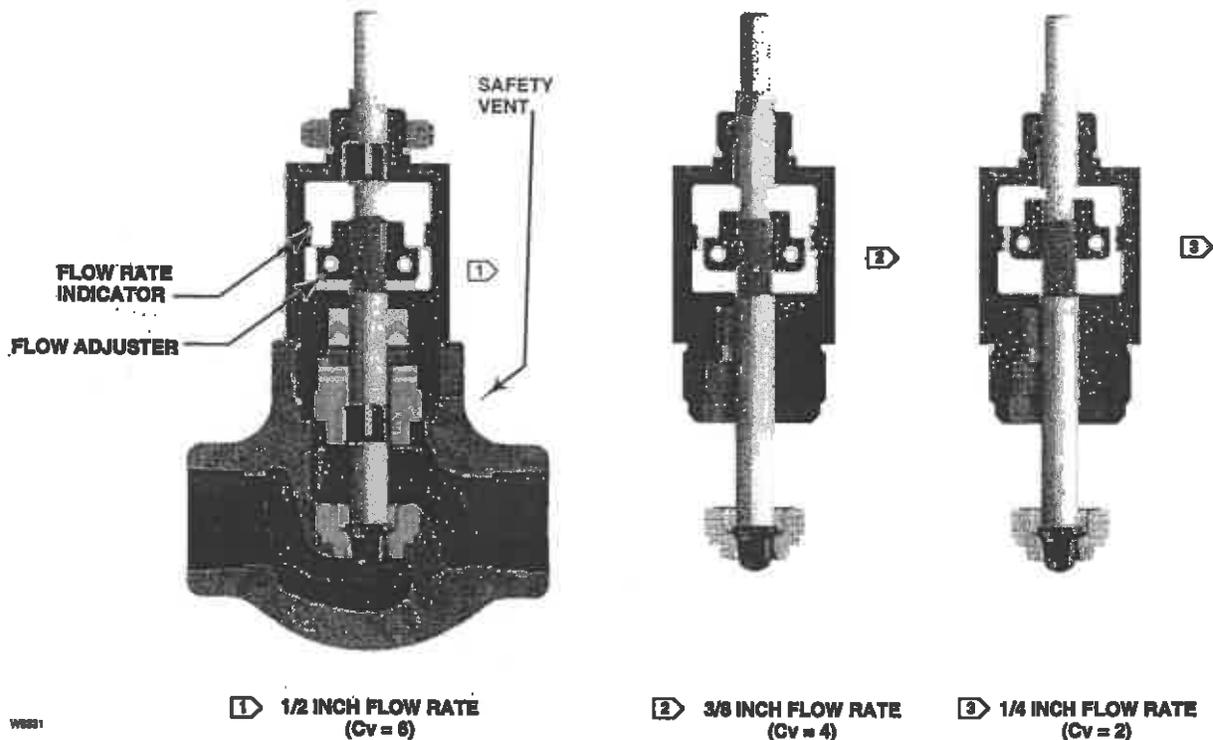

Figure 5. Flow Rate Adjustments
Avoid personal injury from sudden release of process pressure. If the process media starts to escape from the safety vent (see figure 5) located in the bonnet neck of the valve body,
9. Set the flow adjuster to the desired travel position (see figure 5), and tighten the flow adjuster socket head cap screws to 3 N•m (26 lbf•in).
27. Set the flow adjuster to the desired travel position (see figure 5), and tighten the flow adjuster socket head cap screws to 3 N•m (26 lbf•in).